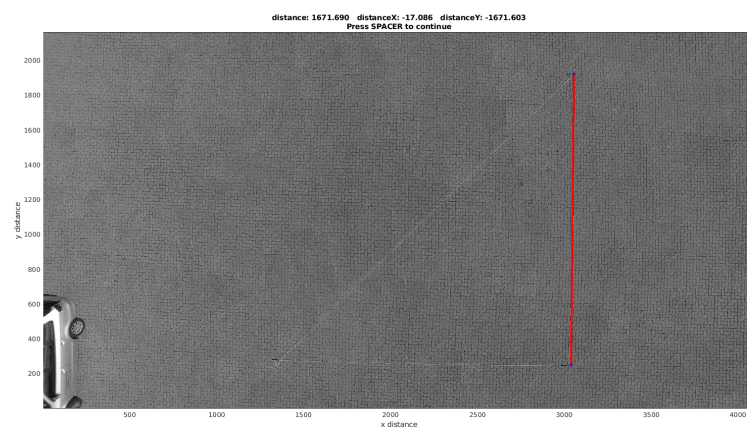

Figure 3.11: Righth click in the starting and end 10 meters line.
4. Define a known distance: Make a mouse Right click in the first corner, and then Right click again in the end corner. The following figure 3.11 will be displayed.